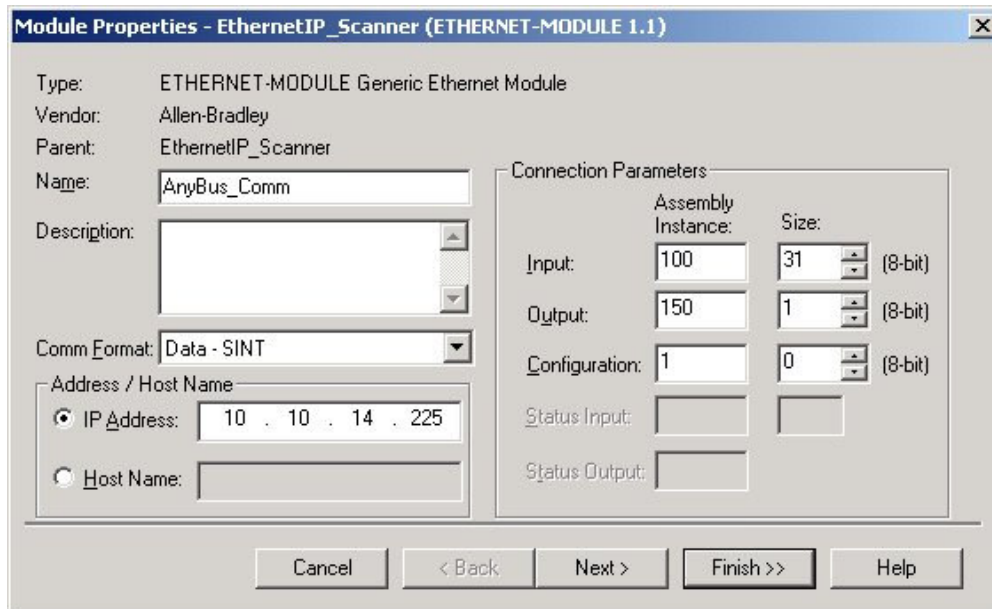

Figure 3
6. Next step is to designate the size of the Input and Output blocks in terms of the selected data format. For the Inputs, if Status and Control Registers are enabled on the Communicator then one 16-bit register is set aside for status (see AnyBus Communicator Manual for information regarding Control/Status Register option). The remainder of the Input size is dependent on the number of registers or bytes being read on the serial link. For the Outputs, if Status and Control Registers are enabled then the size of the Output table is one 16-bit Control Register plus the number of registers or bytes being written on the serial link. Figure 3 gives a sample configuration where there is no enabling of the Status/Control Registers and 31 bytes of data are read and one byte of data is written.